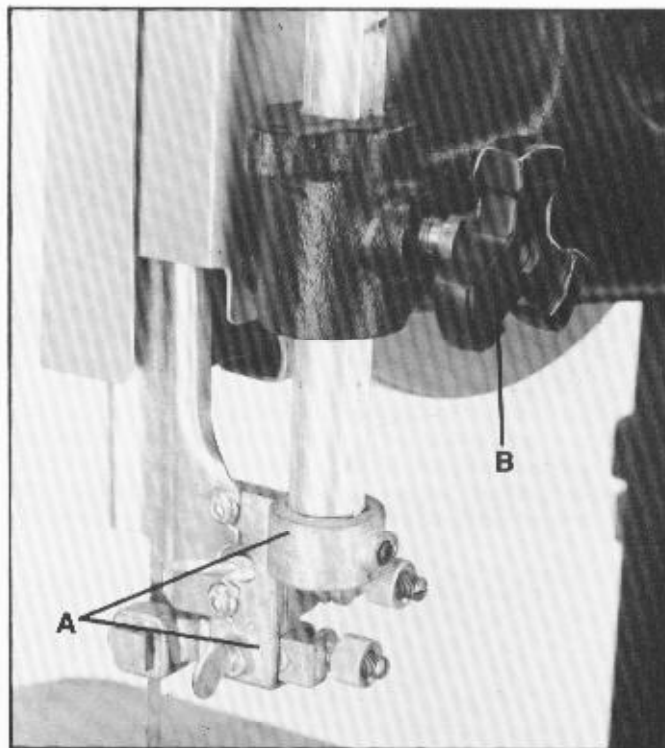

Fig. 18
The upper blade guide assembly (A) Fig. 18, should always be set as close as possible to the top surface of the material being cut by loosening lock knob (B) and moving the guide assembly (A) to the desired position.